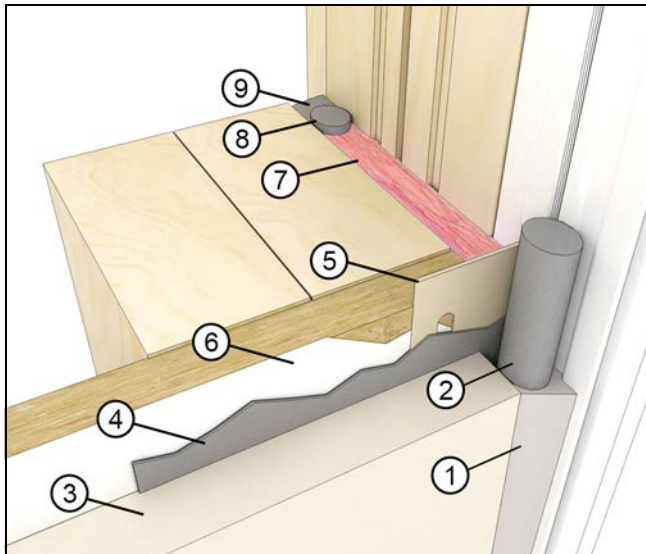

Figure 62
1. For ALL applications: Once the exterior finish such as siding or brick veneer is installed, apply bead of sealant between the finish and the frame exterior or casing along the sides. Apply additional beads approximately 1"- 2" (25-51) at the ends on top of the drip cap. Use a backer rod when necessary. See Figure 62 and Figure 63.